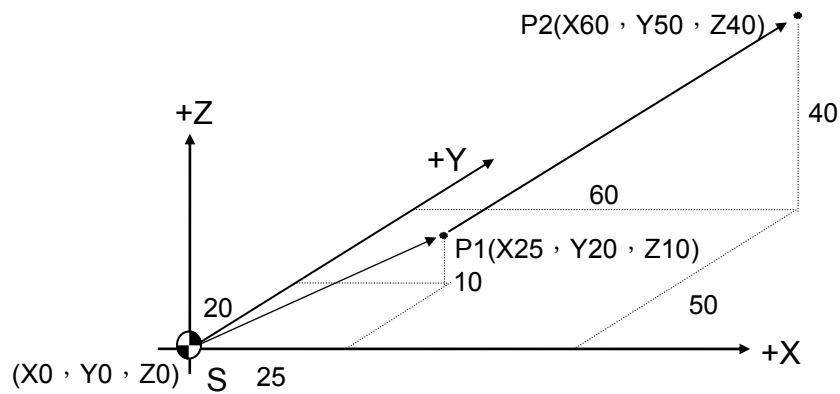

Fig 3-2 G01 Program Example
1. G90 absolute program (Fig 3-2)
2. G91 incremental program (Fig 3-2)
3. G90 increment program (Fig 3-2)